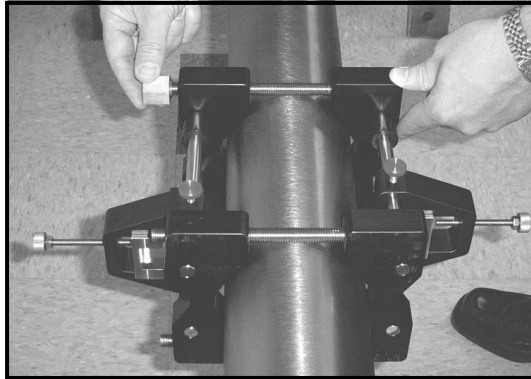

Figure 24: Installing Nuts onto the Fixture
3. Install the four nuts onto the threaded rods with the convex side of the nut facing the fixture. Hand tighten the nuts on each V block evenly, as shown in *Figure 24* on the next page. Do not use a cross tightening pattern on the four installation nuts.